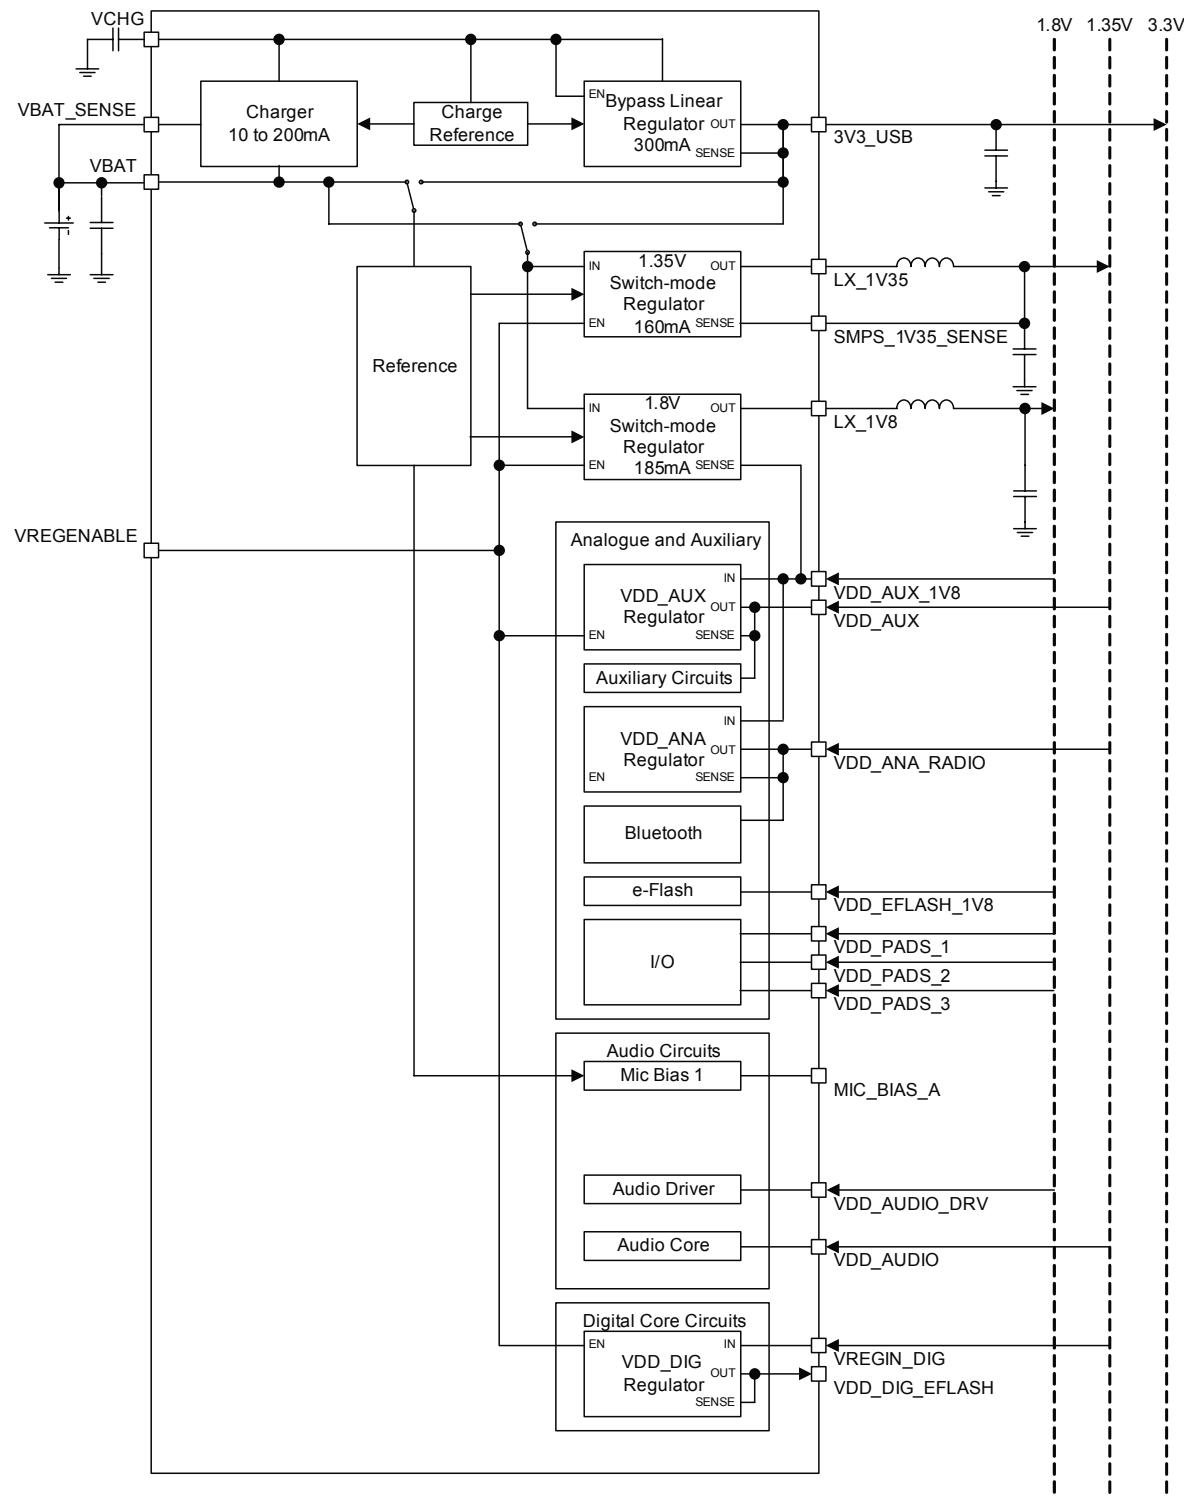

Figure 12.1: 1.80V and 1.35V Dual-supply Switch-mode System Configuration
- A 1.80V and 1.35V dual-supply rail system using the 1.80V and 1.35V switch-mode regulators, see Figure 12.1. This is the default power control and regulation configuration for the CSR8675 WLCSP.